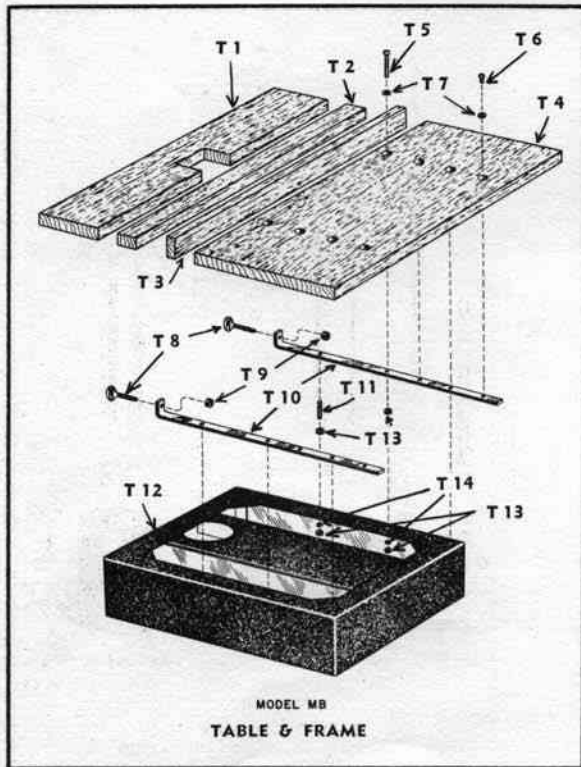

Figure 3
7. ADJUSTING TABLE TOP PARALLEL WITH ARM (Figures 3 and 4, Page 9)
Figure 3 and 4, Page 9